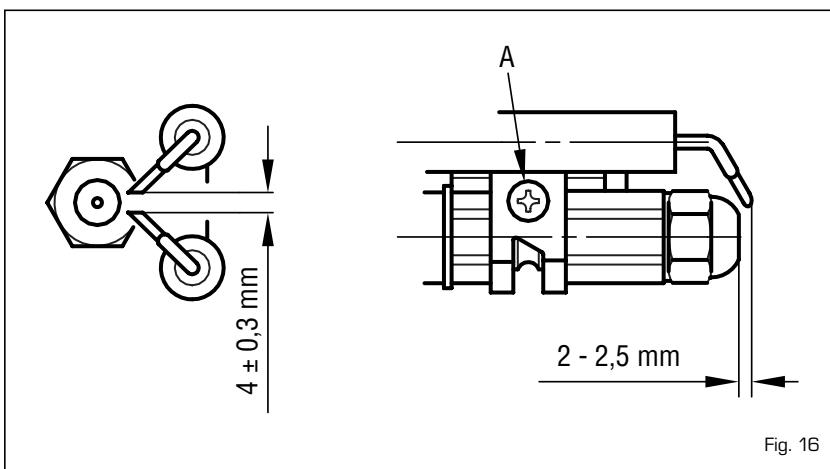

Fig. 16
The combustion head is cleaned in the following manner [fig. 16]:
- Loosen the fixture screw [A fig. 16] of the electrodes support and remove it.